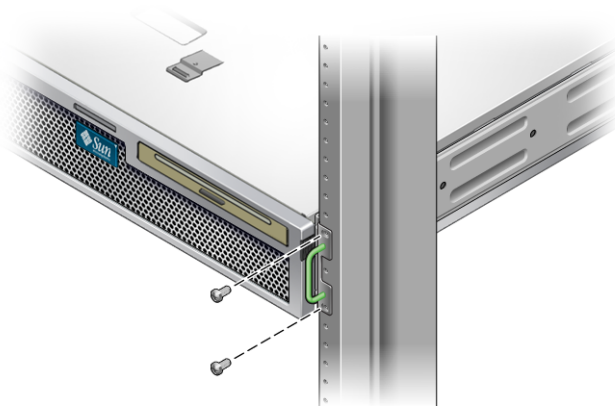

FIGURE 3-13 Securing the Front of the Server to the Rack
15. Using two screws per side, secure the front of the hardmount brackets that are attached to the sides of the server to the front of the rack (FIGURE 3-13).